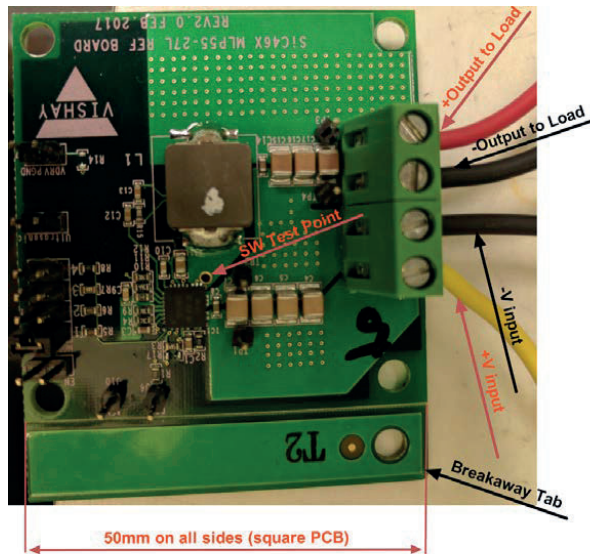

Fig. 1 - PCB Showing Power Terminal Connections
- **VIN, GND (J5, Pin 1 and Pin 2):** (see Fig. 1 below)
- **VOUT, GND (J5, Pin 3 and Pin 4):** (see Fig. 1 below)